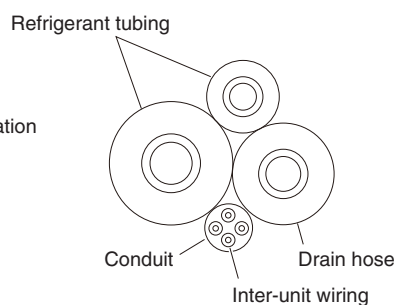

Fig. 1-80
- (5) Assemble the refrigerant tubing, drain hose, and conduit (including inter-unit wiring) as shown in Fig. 1-80.